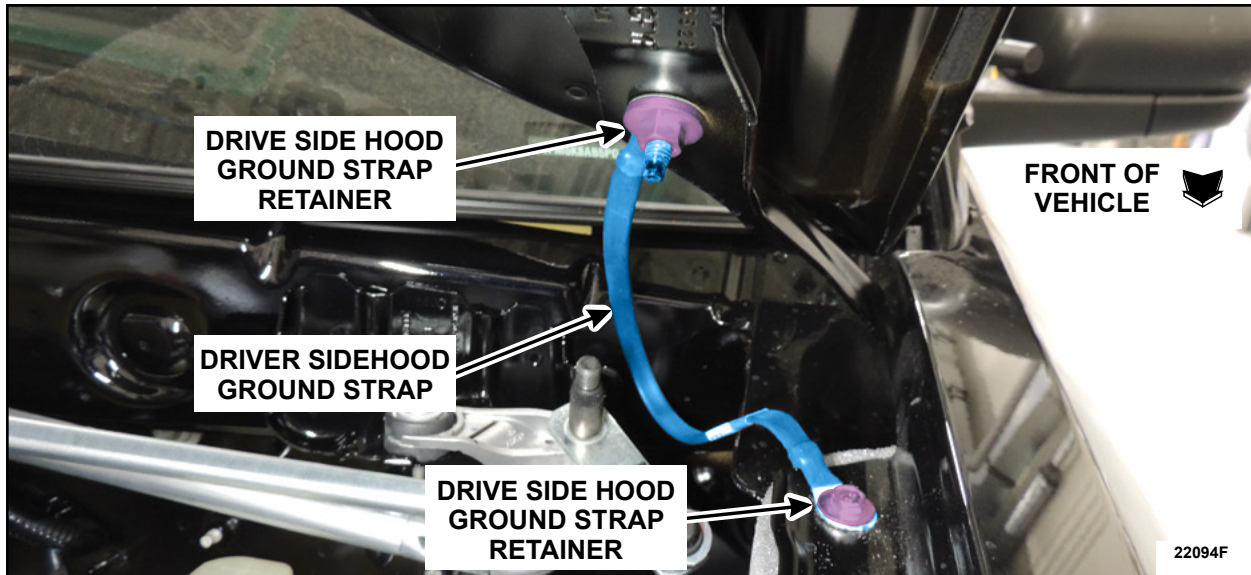

FIGURE 6
12. Install the driver side ground strap and retainers. See Figure 6.